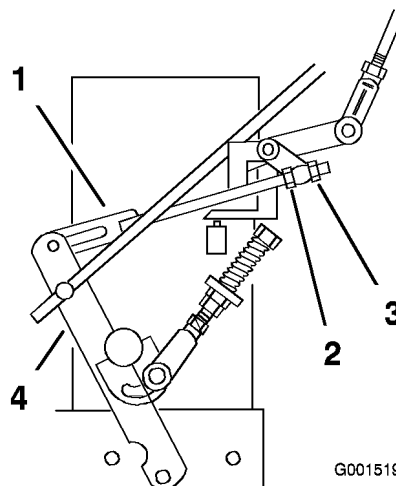

Figure 37
8. Loosen the front adjusting nut on left hydro control linkage as shown in Figure 37.
9. Turn the left rear adjusting nut counter-clockwise until wheel rotates forward (Figure 37).
10. Turn the rear adjusting nut clockwise 1/4 of a turn at a time. Then move the speed control lever forward and back to neutral. Repeat this until left wheel stops rotating forward (Figure 37).